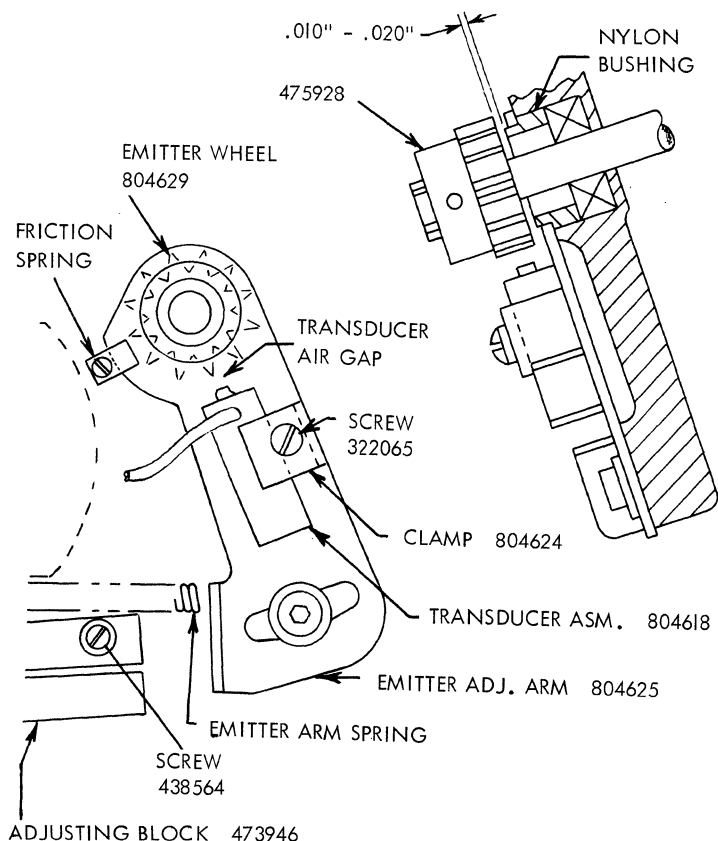

FIGURE 1.
- The emitter wheel should be located .010" to .020" from the nylon bushing as shown in figure 1.
- Loosen transducer clamp screw and adjust transducer for .008" clearance to the Emitter wheel. Refer to figure 1.
NOTE: Timing of the Magnetic Emitter is altered by adjusting the Emitter adjusting arm (P/N 804625) in the same manner as for the brush type Emitter. (See figure 1). Timing should be adjusted to obtain the least time to settle tractor shaft movement, compromise between triple space, six lines per inch, and double space, eight lines per inch.
1. Use care when filling the chain reservoir or when oiling the ribbon-drive motor. Oil can drip because of a pressure buildup in the motor (see figure 1, 1403 Reference Manual)